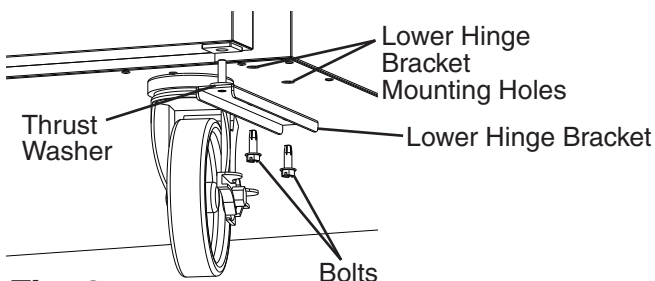
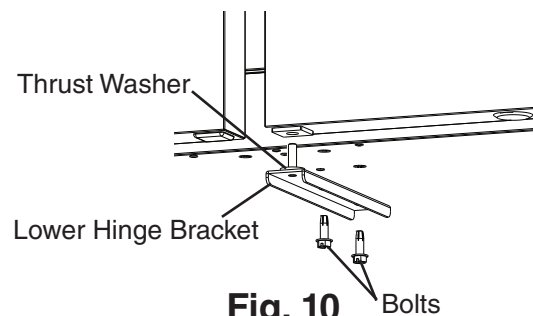

**Fig. 7**
**Fig. 8**
- 2) With the door closed, loosen, but do not remove, the upper hinge bracket outer screw. See Fig. 7. Next, open the door to the fully open position and remove the upper hinge bracket inner screw. See Fig. 8.